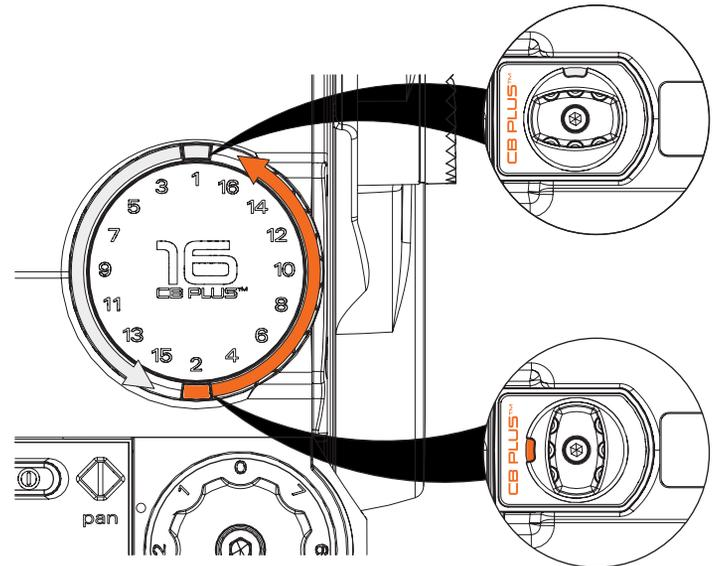

Fig. 10
- 4.3 Finer adjustments can be made by toggling the CB PLUS SELECTOR KNOB (Fig. 10).